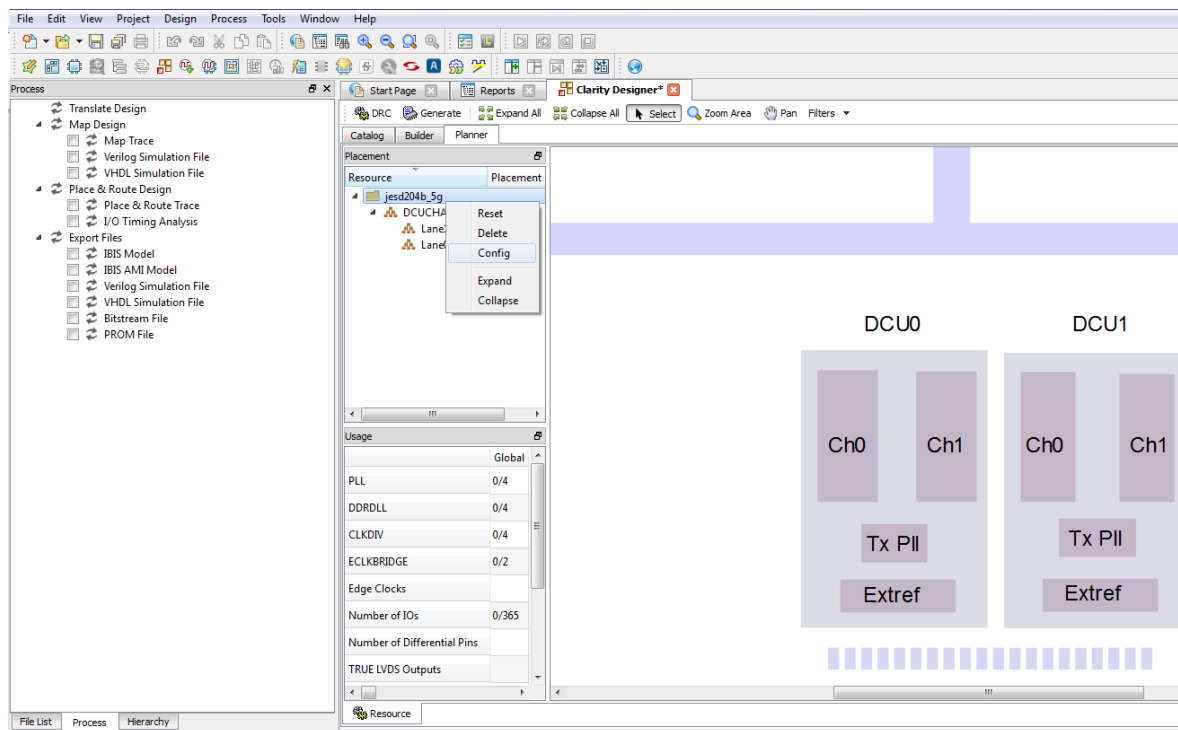

**Figure 4.11. IP Regeneration in Clarity Designer**
1. In the **Builder** or **Planner** tab, right-click the IP instance to be regenerated and select **Config** in the menu as shown in Figure 4.11.